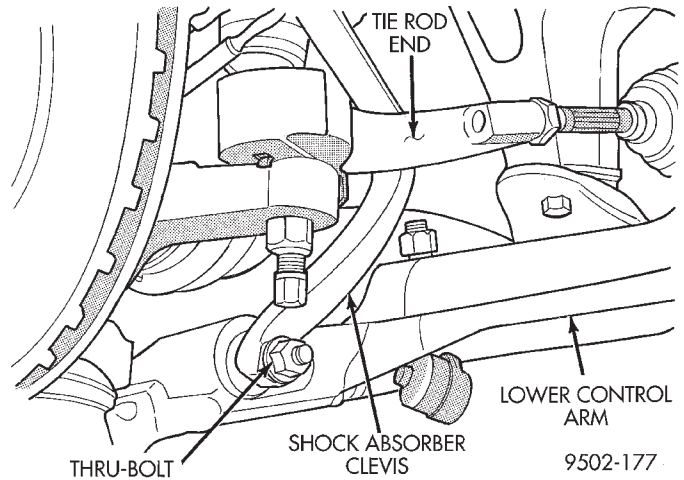
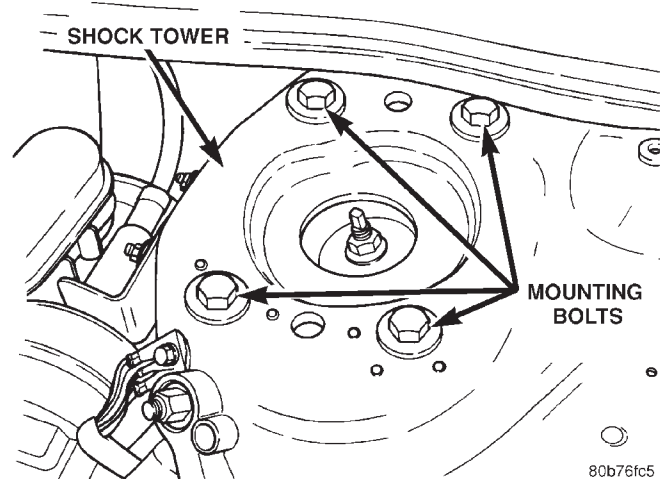

Fig. 8 Clevis To Lower Control Arm Attaching Bolt
Fig. 9 Shock Assembly Attachment To Shock Tower INSTALLATION
- (9) Remove the thru-bolt (Fig. 8) attaching the shock absorber clevis to the lower control arm.
- (10) Remove the clevis from the shock absorber by carefully tapping the clevis off the shock absorber using a soft (brass) drift.
- (11) Remove the 4 bolts attaching the shock absorber/upper control arm mounting bracket to the shock tower of the vehicle (Fig. 9).
- (12) Remove the shock assembly from the vehicle. The shock assembly is removed out through the front area of the front wheel well.
(1) Install the shock assembly, with the clevis removed, into shock tower. Aligning the 2 locating pins and the 4 mounting holes on the upper control arm shock absorber mount with the 4 holes in shock tower. Install the 4 upper control arm mount to shock tower mounting bolts (Fig. 9). Tighten the 4 bolts to a torque of 90 N·m (68 ft. lbs.).
(3) Install the clevis bracket to lower control arm thru-bolt (Fig. 8). Do not tighten or torque the thru-bolt at this time.